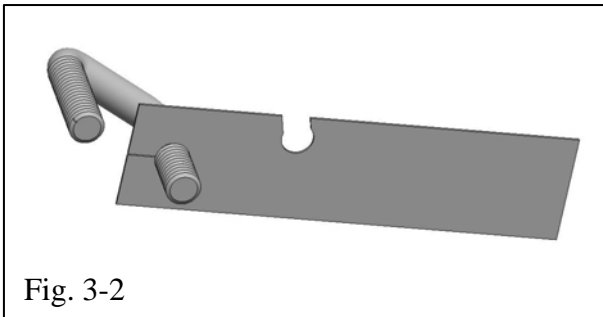

Fig. 3-2
- (c) Install plastic retaining clip to midpoint of threads on M8 U-bolt. (Fig. 3-2)
NOTE: Be sure to align secondary retaining notch facing inward of U-bolt as shown in Figure 3-2.